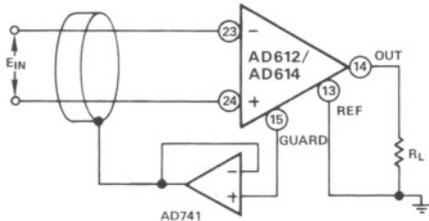

Figure 5. Guard Drive Connections
**Input Drive:** A passive data guard (as shown in Figure 2) is recommended to improve ac common mode rejection by compensating for unbalanced capacitance due to long input leads. Use the data guard is recommended where input leads are longer than a few inches. In cases where the input leads are quite long or where system bandwidth is very high, the addition of a buffer amplifier as shown in Figure 5 is recommended.